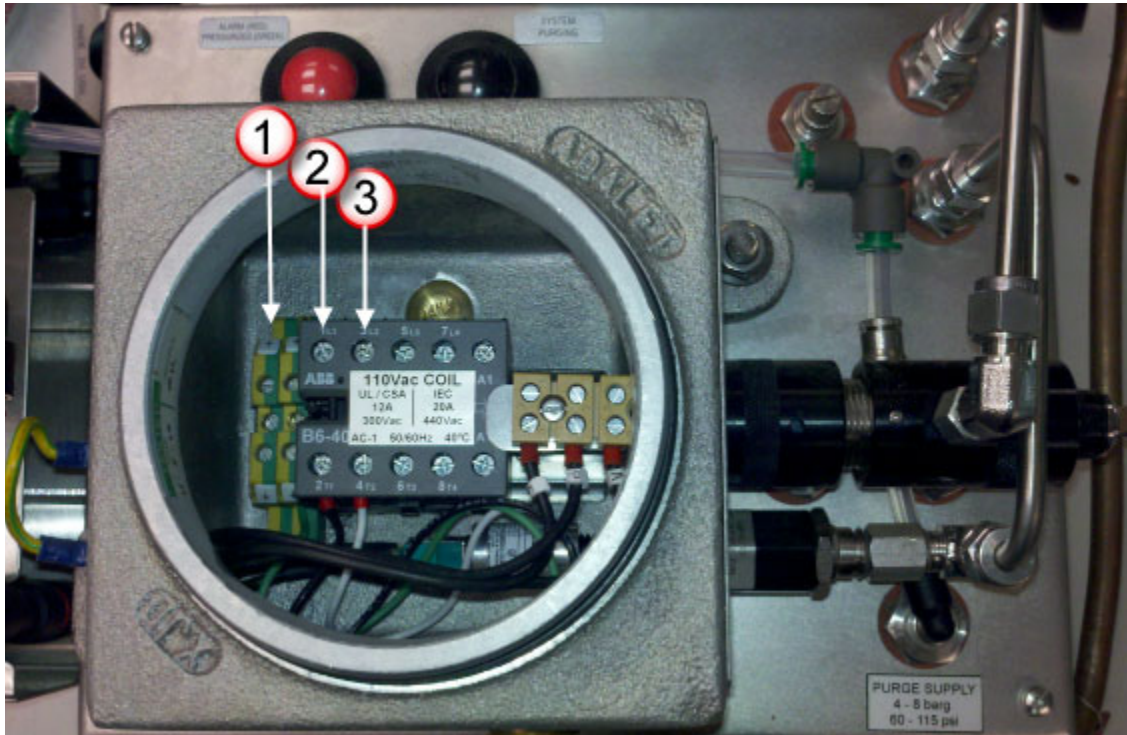

Figure 3-9 Power connection (ReactIR 45P HL)—Terminal block wiring
4. Connect the external power to the terminal block inside the purge/pressurization enclosure, according to Table 3-5 and shown in Figure 3-9.